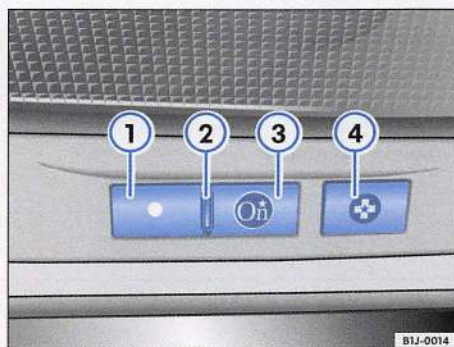

Fig. 11 OnStar services button (OnStar button) and emergency button
– Press the blue  button ⇒ **fig. 11 ③** or the OnStar emergency button **④**. A small microphone picks up your voice and the OnStar Advisor talks to you through your stereo speakers.